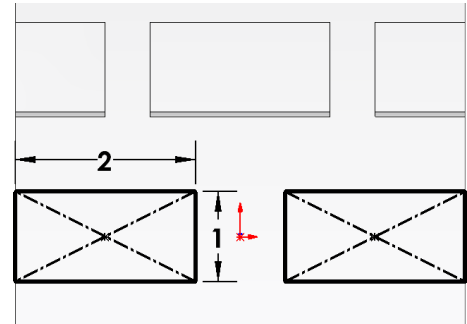

Fig. 31
Step 15. Click **Mirror Entities**  **Mirror Entities** on the Sketch toolbar, **Fig. 31.**